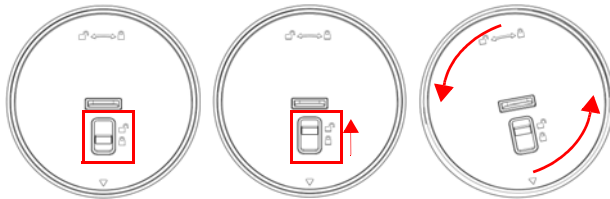

FIG. 5 Remote control - bottom panel (lock/unlock/remove)
2. On the bottom panel, flip the plastic lock to the Unlocked position (FIG. 5):